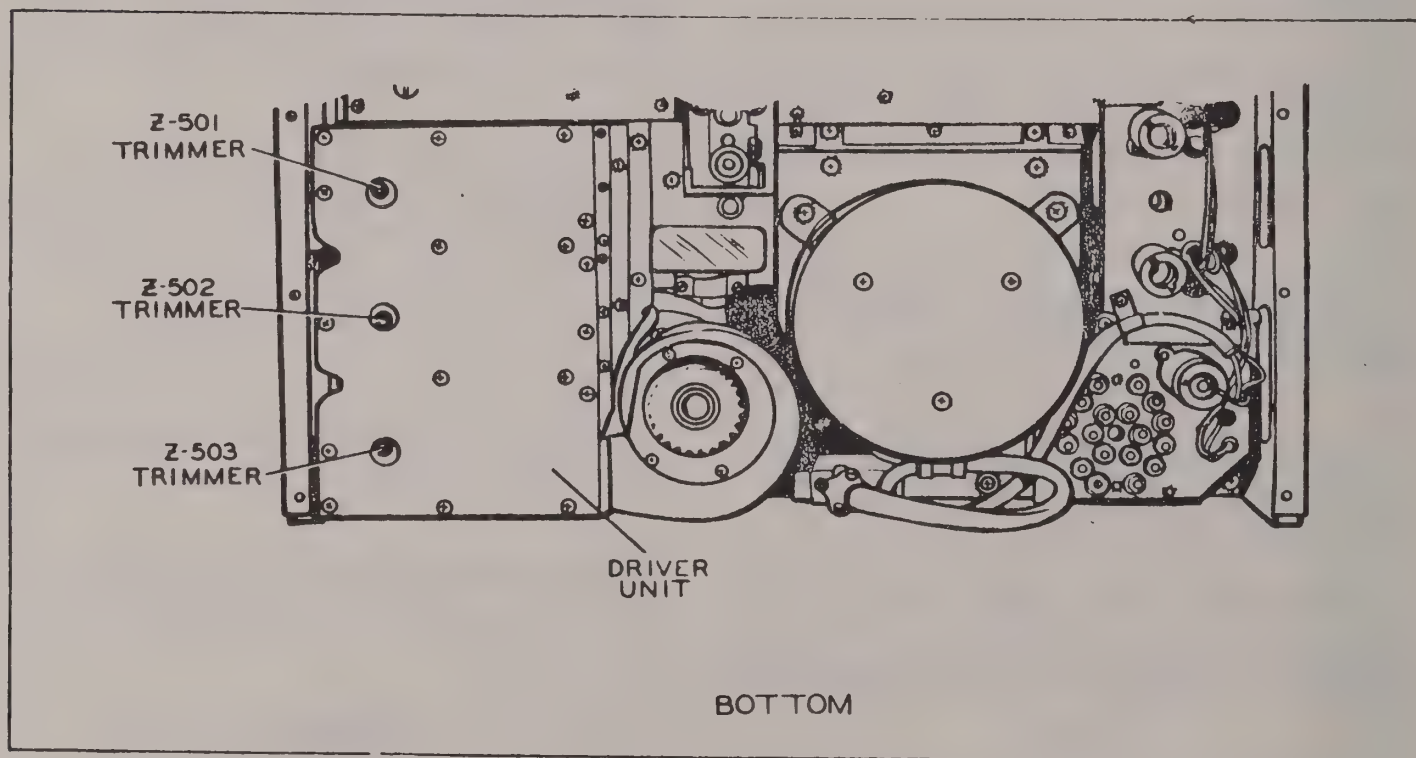

Figure 3-20 Radio Transmitter T-217A/GR, Partial Rear View,
(16) Install the slug pullers on trimmer screws Z-501, Z-502, and Z-503 as follows: See Figure 3-20.